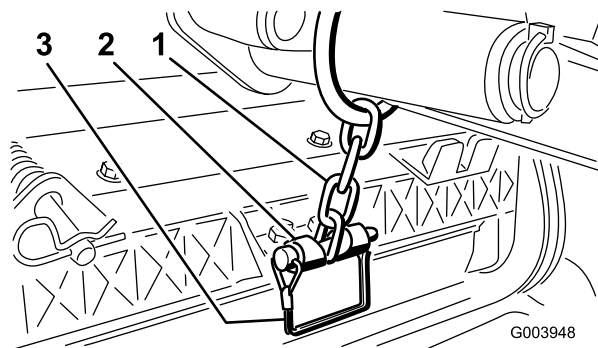

**Figure 18**
- A. Remove the lynch pin and washer securing the lift-arm pivot shaft to the lift arm and slide the lift-arm pivot shaft out of the lift arm (Figure 18).
- C. Insert the lift-arm shaft into the lift arm and secure it with the washer and the lynch pin (Figure 18).